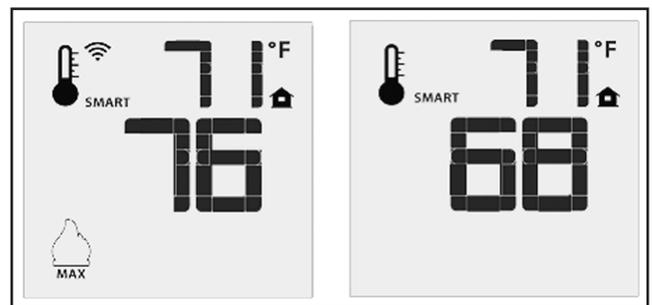

Figure 10: Remote Control's Smart Flame Function.
The Smart Thermostat function adjusts the flame height in accordance to the difference between the set point temperature and the actual room temperatures. As the room temperature gets closer to the set point the Smart Function will modulate the flame down. To activate this function, press the Thermostat Key (Figure 4) until the word “SMART” appears to the right of the temperature bulb graphic (Figure 10). To adjust the set temperature, press the Up or Down Arrow Keys until the desired set temperature is displayed on the LCD screen of the Transmitter.
2. Remove the (14) T-20 bolts retaining the access panels as shown in Figure 10.